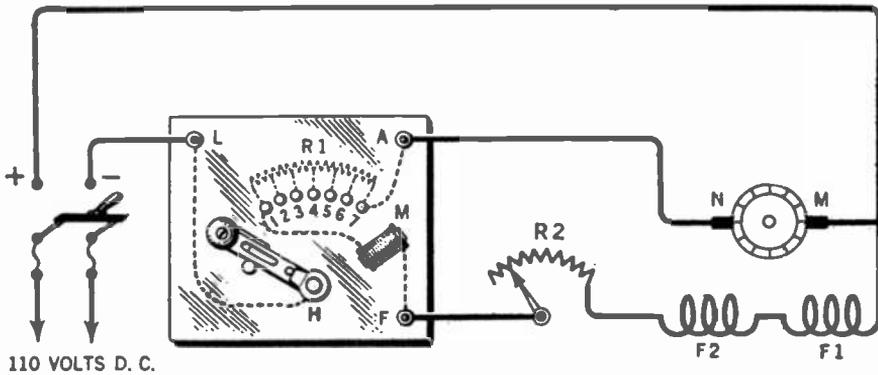

FIG. 79.—Cutter-hammer hand starter connected to a shunt-wound motor.
*Answer.* A diagram of the Cutler-Hammer hand starter is shown in Figure 79 connected to a shunt-wound motor. The principal elements of the starter are the resistance coils  $R_1$ , the small holding magnet  $M$  and the handle  $H$ . The coils